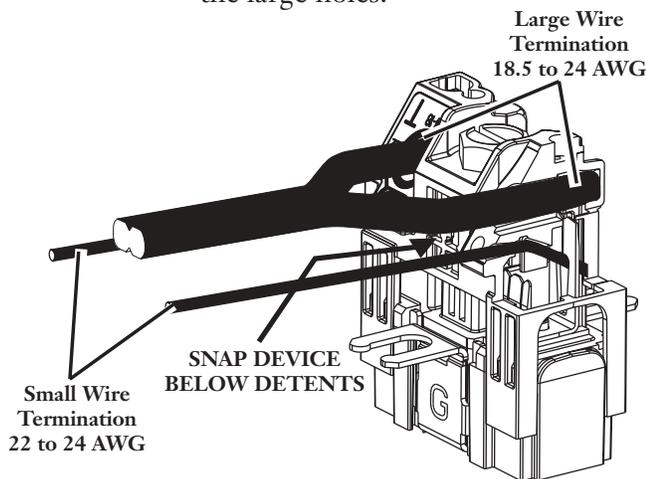

Figure 3 — Insert Telco Wires
- Step 5** Insert the solid wires into the large holes. Check insertion depth visually through the cap (Figure 3).